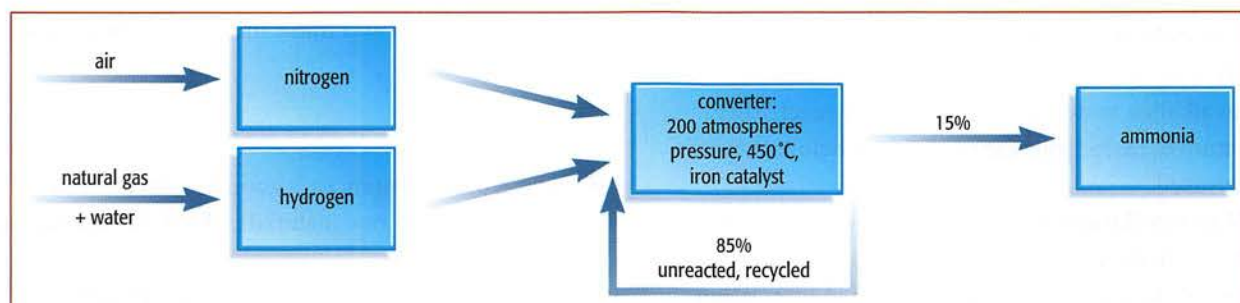

Figure 9.31 A summary of the steps involved in the Haber process.
- ◆ The raw materials for the production of ammonium nitrate fertiliser are air and natural gas (Figure 9.31). This factory is situated next to the onshore base for an offshore gas field (Figure 9.32, overleaf).